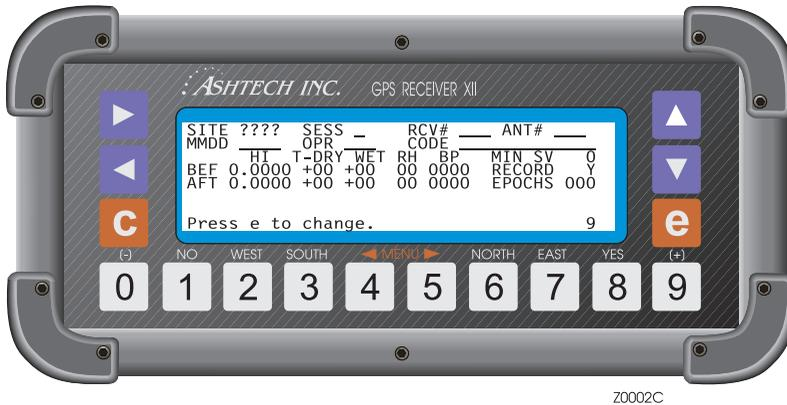

Figure 5.5. Screen 9
2. Press **9** to go to Screen 9, Figure 5.5, press **e**, and enter a site name, for example, 0001. Also take this opportunity to alter other parameters.